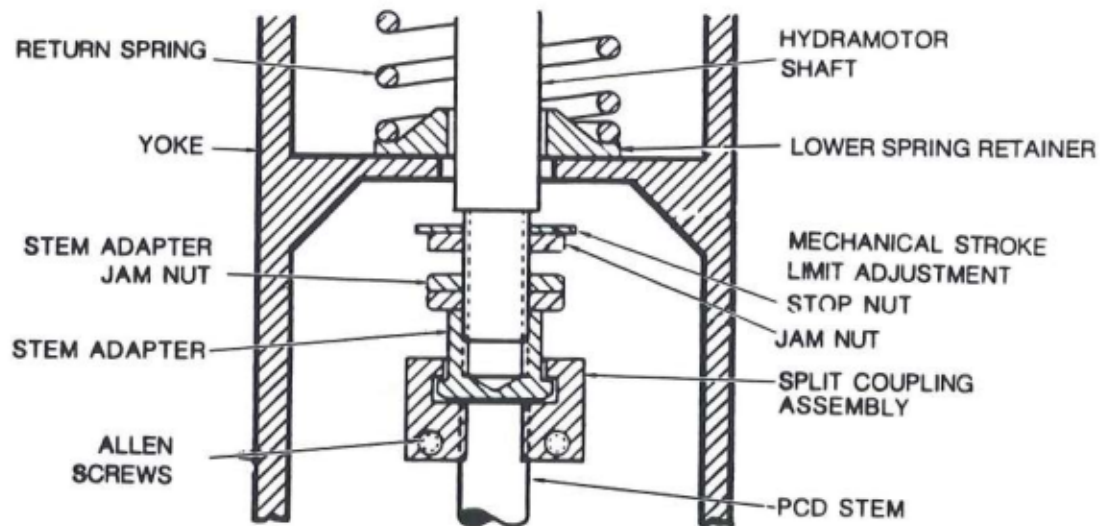

Figure 1-5. Shaft/PCD Stem Connection for Push Type Hydramotors
- b. Push Type Hydramotors: Thread the mechanical stroke limit adjustment stop nut (see Figure 1-5) on the Hydramotor shaft, then screw the jam nut and stem adapter jam nut to the upper end of the shaft threads.